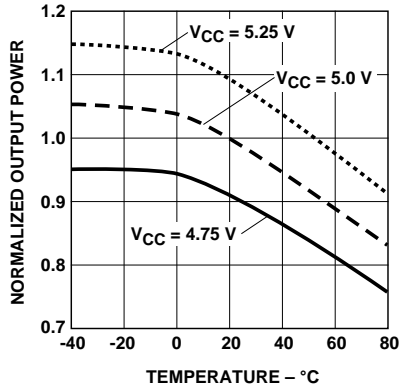

Figure 4. Typical Normalized Optical Power vs. Temperature (in Recommended Drive Circuit).
3. Minimum and maximum values for P_T over temperature are based on a fixed drive current. The recommended drive circuit has temperature compensation which reduces the variation in P_T over temperature, refer to Figures 4 and 6.